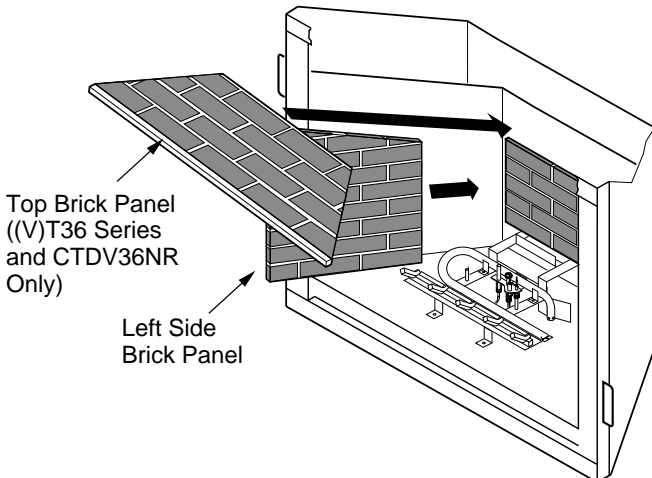

Figure 44 - Installing Left Side and Top Brick Panels
6. Install top brick panel (36" Series only) by resting on the top of the rear panel. Hold the top brick panel in place and install left side brick panel by sliding it between the grate and the side of the firebox, securing top panel (see Figure 44).